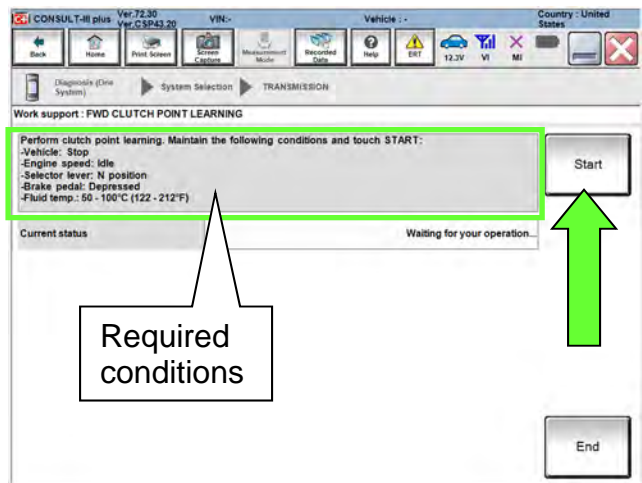

Figure 176
- Confirm that all of the required conditions indicated in Figure 176 are being met.
175. While maintaining all conditions shown in Figure 176 and the “Current status” indicates “EXECUTING”, shift the CVT into **D** and then wait until the “Current status” indicates “COMPLETED”.